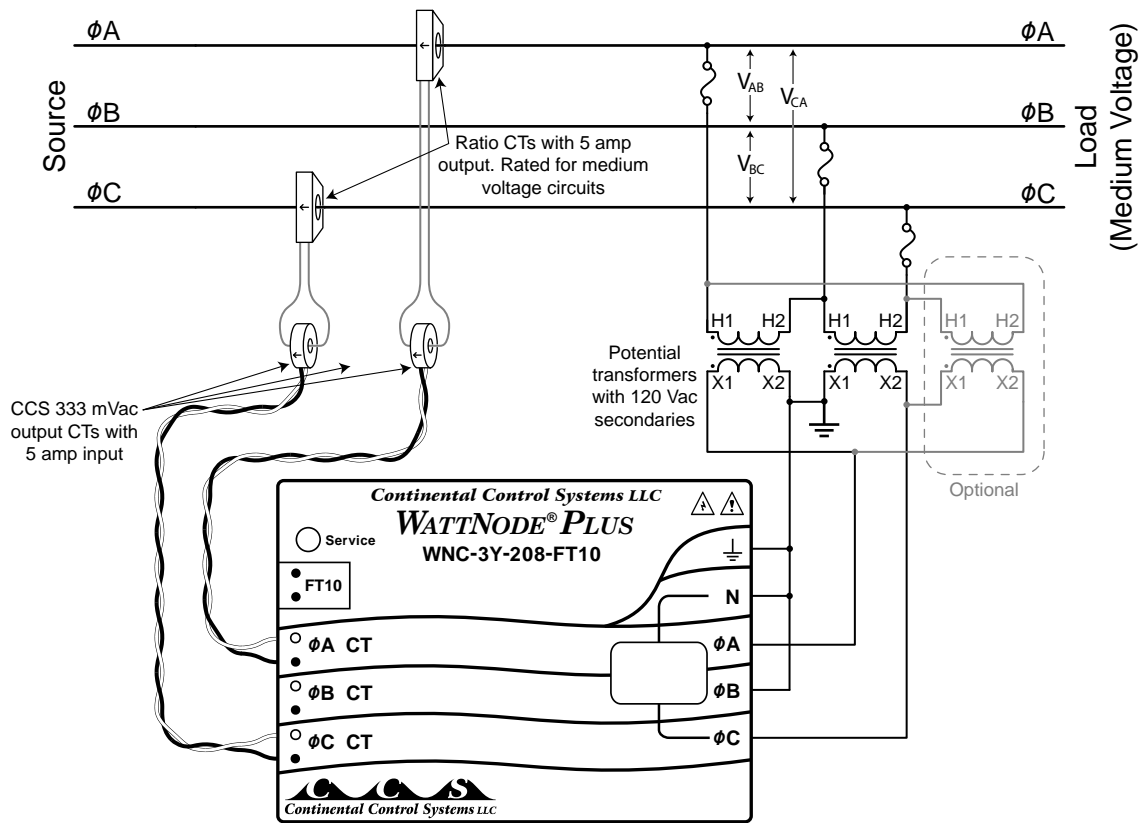

Figure 2: Monitoring a Delta Circuit
All of the above grounding configurations (including floating) can be monitored as shown in **Figure 2**. This can use two or three element PTs. The third PT element is redundant (unnecessary) for this configuration and is shown in gray in the figure. As a result of grounding the phase B output of the PT, the WattNode meter will only report voltage, current, power, and energy for two phases: phase A and phase C.
- **Two-Element PT:** See Figure 2: Monitoring a Delta Circuit.
**Note:** Because CCS does not offer a model with a power supply that can operate from 120 Vac line-to-line or 69 Vac line-to-neutral, it may be necessary to tie one PT output voltage to neutral and ground as shown in **Figure 2**.